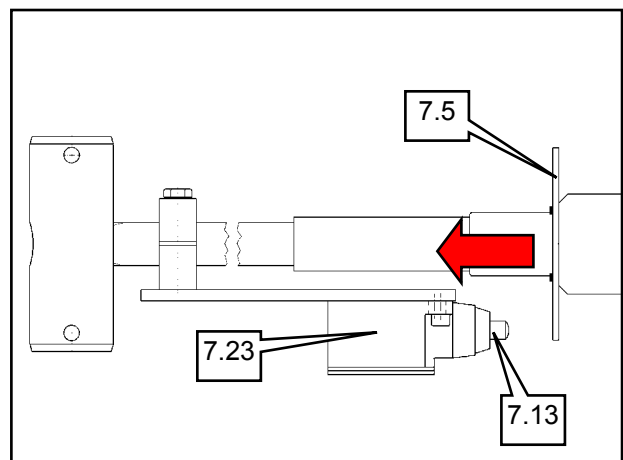

Fig. 10:
- Turn Nut (3.14) **counterclockwise** until the piston rod of the thruster (Fig. 10) has reached the necessary value for S1 (table 1).